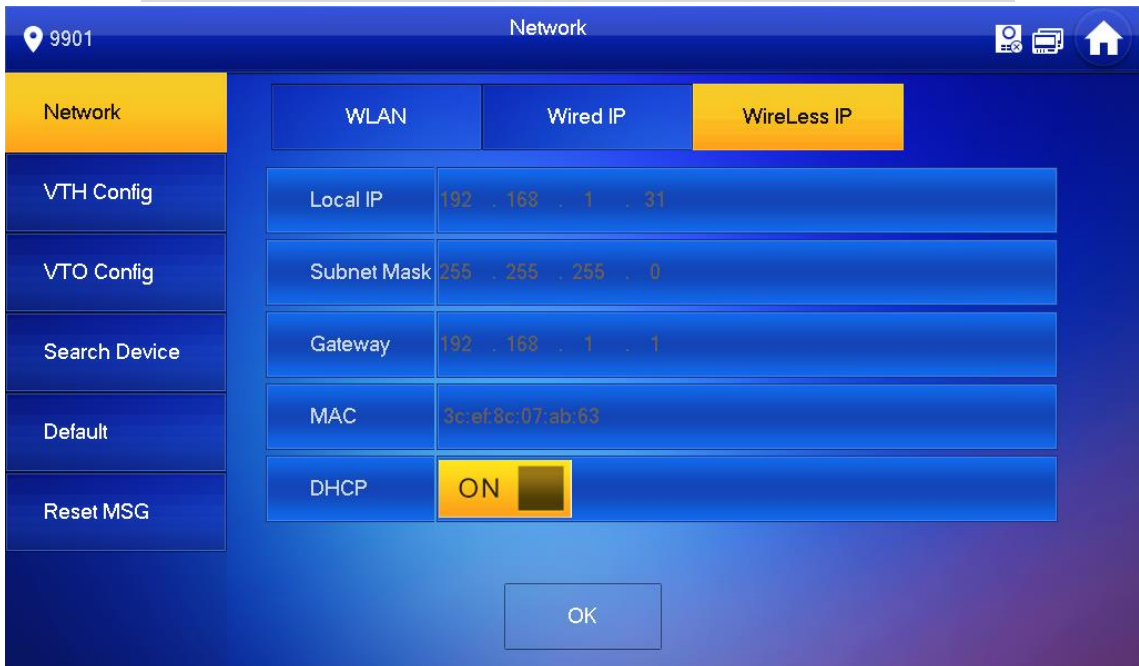

Figure 5-17
- ◇ At “WLAN” interface, select WIFI, click “Wireless IP” tab, press OFF to enable DHCP function and obtain IP info automatically, as shown in Figure 5-17.